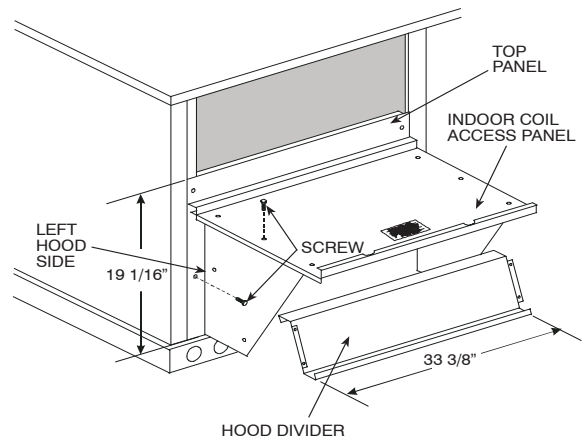

Fig. 32 – Outdoor-Air Hood Construction
4. Swing out indoor coil access panel and insert the hood sides under the panel (hood top). Use the screws provided to attach the hood sides to the hood top. Use screws provided to attach the hood sides to the unit. (See Fig. 32.)
6. Insert the hood divider between the hood sides. (See Fig. 32 and 33.) Secure hood divider with 2 screws on each hood side. The hood divider is also used as the bottom filter rack for the aluminum filter.